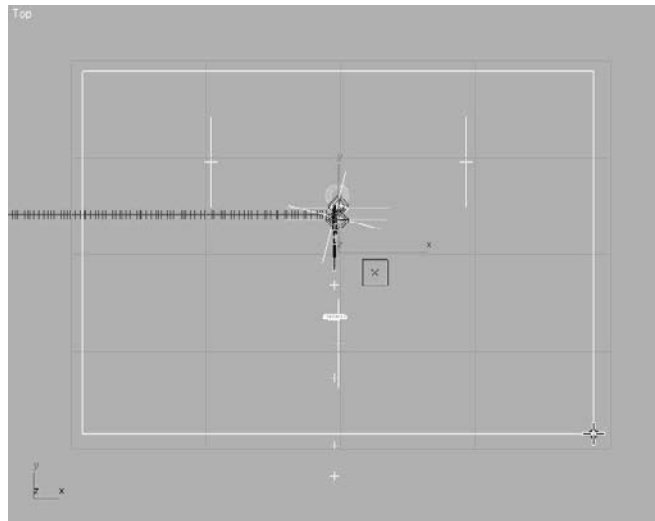

Figure 12.34
4. In the Top viewport, click and drag to define the two opposite corners of the deflector. The deflector should be similar in size to the Floor object in the scene. Unlike the Forces space warps, deflectors must be positioned in the stream of the particles, as shown in Figure 12.34.